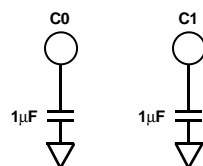

Figure 18. AD1849K External Filter Capacitor Connections
Figure 18 illustrates signal-path filtering capacitors, C0 and C1. The AD1849K must use 1.0 μF capacitors.
- The Analog Devices AD1849K uses two external capacitors to complete its internal input filter as shown in Figure 18. The CS4215 calls the two pins on the AD1849K for these capacitor connections, “no connects.” By laying out a board with these capacitors, either chip will work.